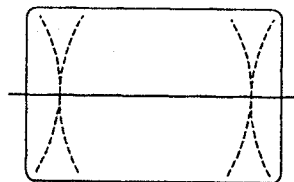

fig. 2.4A
6. Watching the second vertical line in from both sides of the screen (figure 2.4A), make any upper and lower distortion symmetrical using buttons "4" or "6" on the remote control.